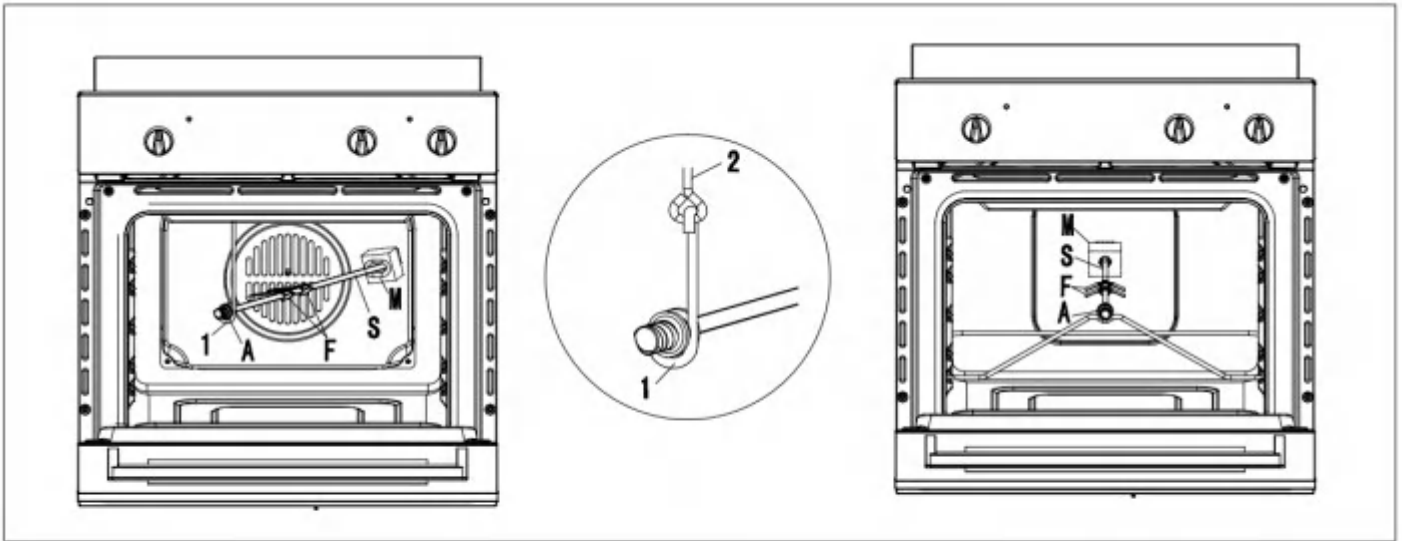

Fig.13
The common oven installation method is as shown below, but this product is suitable for Fig.13; And Fig.14 is just for extra reference.
- ❖ Fit the end of the spit into the motor "M" at the back of the oven (Fig. 13).